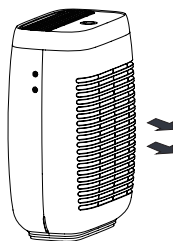

Fig.2
- ◆ Remove the plastic package from the filter.(FIG2)